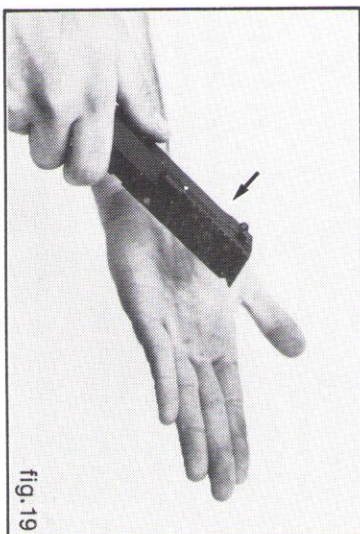

fig. 19
9. Holding the fore-end of the slide assembly in one hand, use the palm of your other hand to tap the bolt out of the slide slots in the slide (fig. 19).